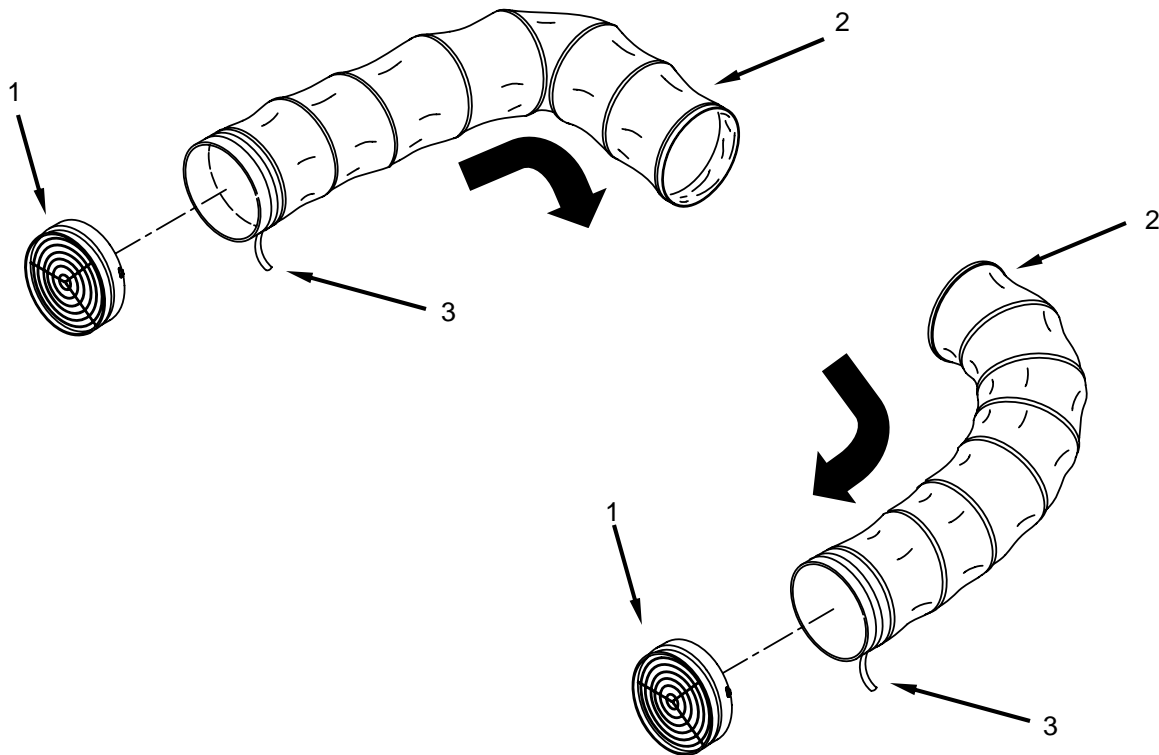

Figure 20. Installing Debris Grills in Air Supply and Return Ducts.
When the heater is shipped initially, the debris grills (**Figure 20, Item 1**) are not installed in the end of the ducts (**Figure 20, Item 2**) but must be installed before the heater can be used.
1. To install a debris grill (**Figure 20, Item 1**), insert the grill (with the grill facing out) into the end of one of the ducts. Secure the debris grill in the end of the duct with the strap (**Figure 20, Item 3**) at the end of the duct by installing the strap into the groove on the debris grill and tighten by pulling the strap.